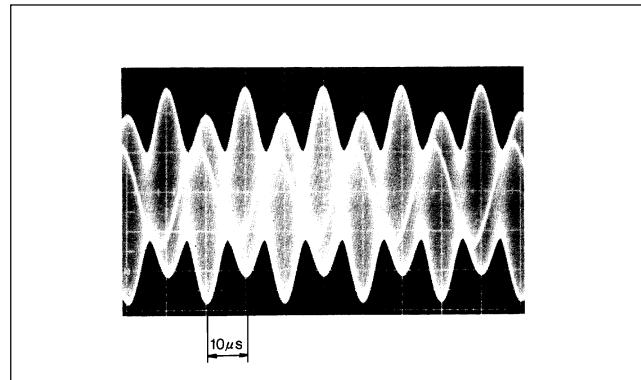
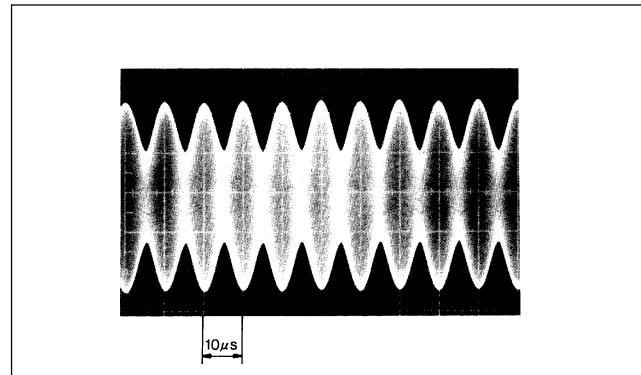

Fig. 4-7
Fig. 4-8
- ① Prepare the oscilloscope by setting the input coupled switching to AC with a horizontal sweep axis of $10 \mu\text{s}/\text{div}$ and a vertical axis of $0.5 \text{ V}/\text{div}$, and connecting CH1 to the PM terminal. At this time, the trigger source should be taken from INT CH1.
- ② A sine wave appears in CH1. The phase of this sine wave moves in accordance with the scale movement, allowing the envelope ripple to be observed. First rotate the RV2 volume to set the sine wave amplitude to approximately 2 Vp-p . (This is called the gain adjustment.)
- ③ When the RV1 volume is rotated completely to the right (clockwise) and the scale is moved, the waveform shown in Fig. 4-7 appears. At this point, adjust the RV4 volume so that neighboring peaks are of the same height as shown in Fig. 4-8 (This is called the DC balance adjustment.) If the minimum PM signal amplitude falls to 0.5 Vp-p or less, the alarm function may operate.
- ④ When the RV1 volume is rotated completely to the left (counter-clockwise) and the scale is moved, the waveform shown in Fig. 4-7 appears as in step ③ above. At this point, adjust the RV5 volume so that neighboring peaks are of the same height as shown in Fig. 4-8.